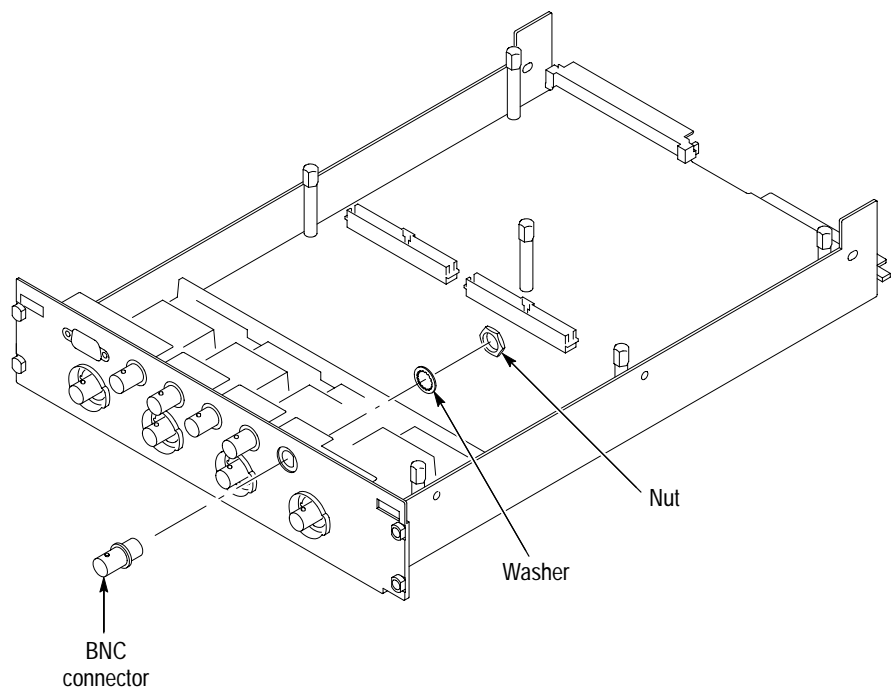

Figure 6–6: BNC replacement
**Installation** Use the following procedure and Figure 6–6 to install BNC connectors.
4. Plug the coaxial cable into the rear of the BNC (see Figure 6–8 on page 6–20 for a detailed description of the cable connections).